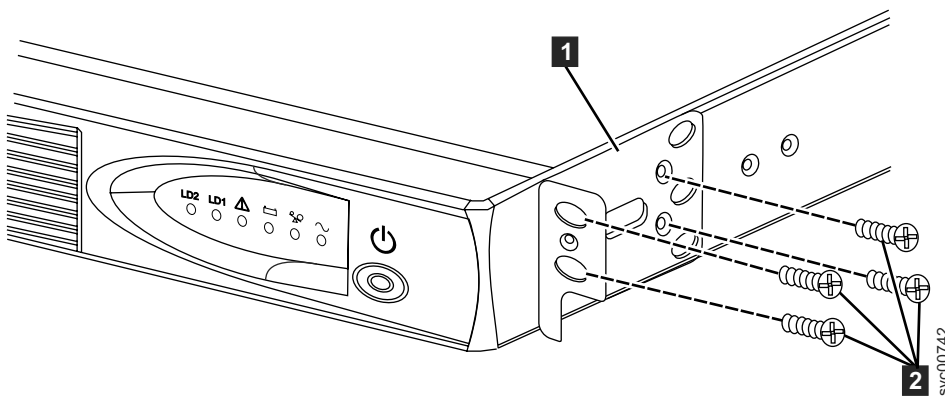

Figure 324. Installing the 2145 UPS-1U mounting brackets for the 2145 UPS-1U
3. Attach the long side of a mounting bracket **1** to each side of the 2145 UPS-1U using four M3 × 6 screws **2** for each bracket, as shown in Figure 324.